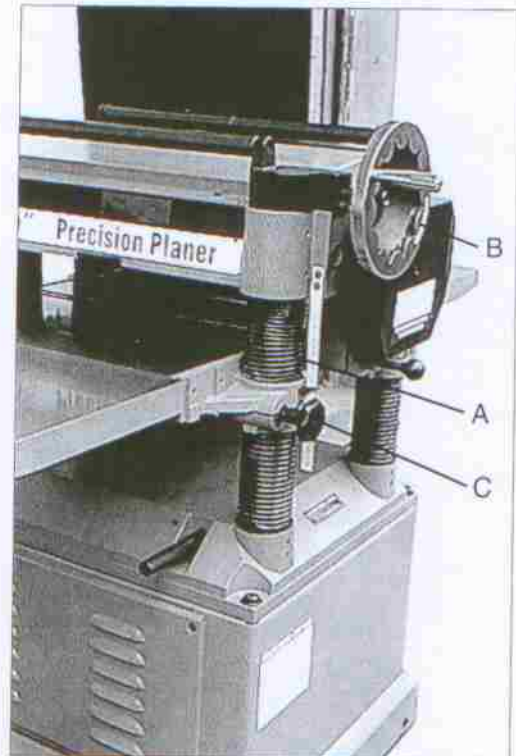

Fig.18
The cutting depth scale is a combination inch/metric scale (A), Fig.18, cutting range from 0 to 8" (204mm). The distance of upward or downward movement is controlled by Handwheel (B) Fig.18, for one revolution is 0.059" (1.5mm). Before moving table upward or downward, loosen the lock nuts (C) as shown in Fig. 18. After choosing the proper position, tighten the lock nuts (C).